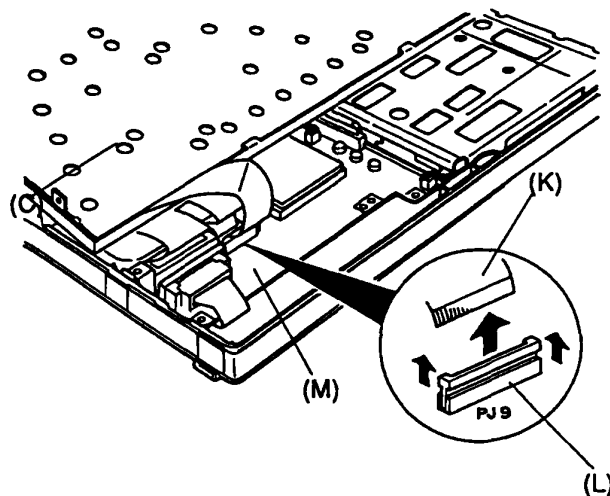

Figure 4-9 Disconnecting the keyboard cable
11. Disconnect the keyboard cable (K) from the pressure plate connector PJ19 (L) on the system board (M) and then place the keyboard aside (Figure 4-9).
1. Place the keyboard so that the bottom is facing you and lean it against the display panel. Connect the keyboard cable to pressure plate connector PJ19 on the system board (Figure 4-9).